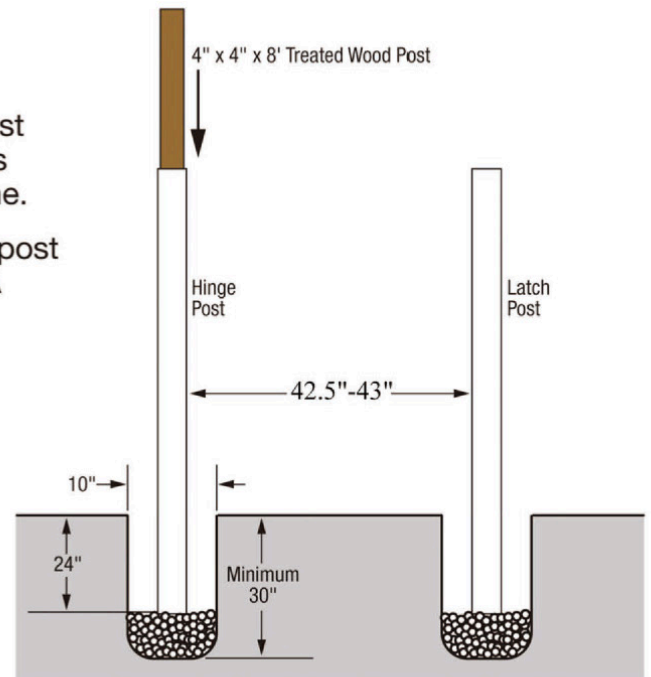

Fig 2. Setting Posts
2. The gate can be set up for Right or Left swing. The post that will be used as your Hinge Side **MUST HAVE A 4" x 4" INSERT** for greater strength. (See Fig 2.)